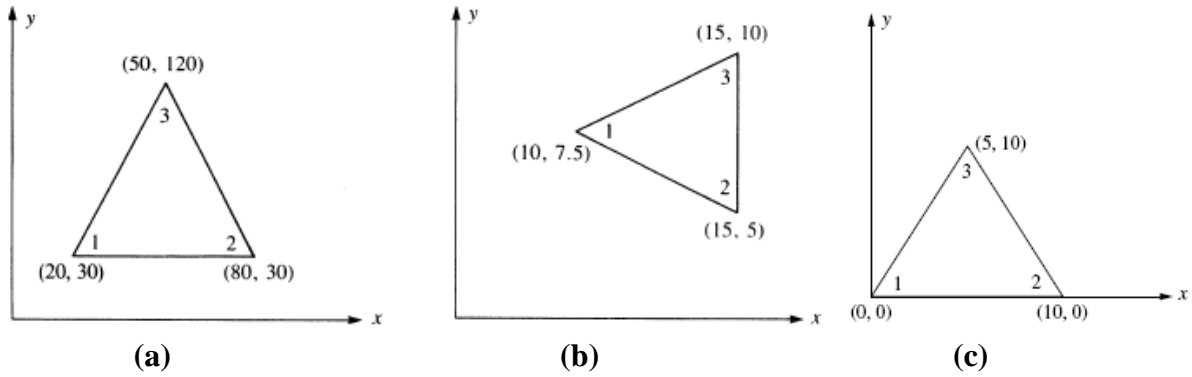

Figure P8.5
5. For the elements shown in **Figure P8.5**, the nodal displacements are given as $u_1 = 2$ mm, $u_2 = 0.5$ mm, $u_3 = 3$ mm, $v_1 = 1$ mm, $v_2 = 0$ mm and $v_3 = 1$ mm. Determine the element stresses. Take $E = 210$ GPa, $\nu = 0.25$ and $t = 10$ mm.